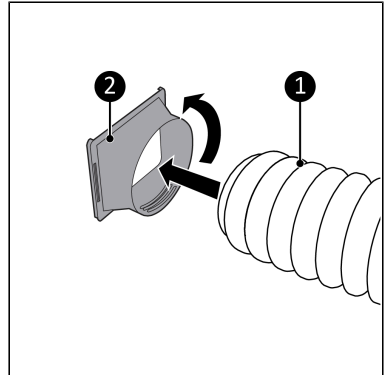

Figure 28.
1. Connect the hose connector (Figure 28, pos. 2) to one end of the hot air outlet hose (Figure 28, pos. 1).